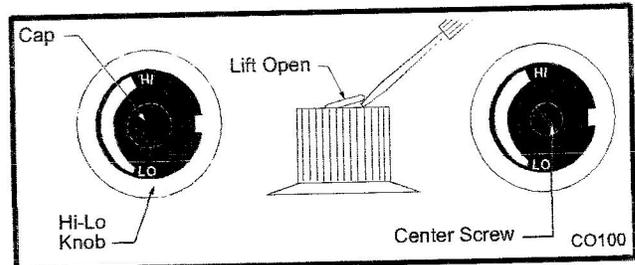

Fig. 50 Remove center screw from Hi-Lo knob.
10. Remove cap from Hi-Lo knob. This can be accomplished by lifting the plastic cap off the screw. (Fig. 50)
11. Remove the screw from center of Hi-Lo knob with small screwdriver turning counterclockwise. (Fig. 50)